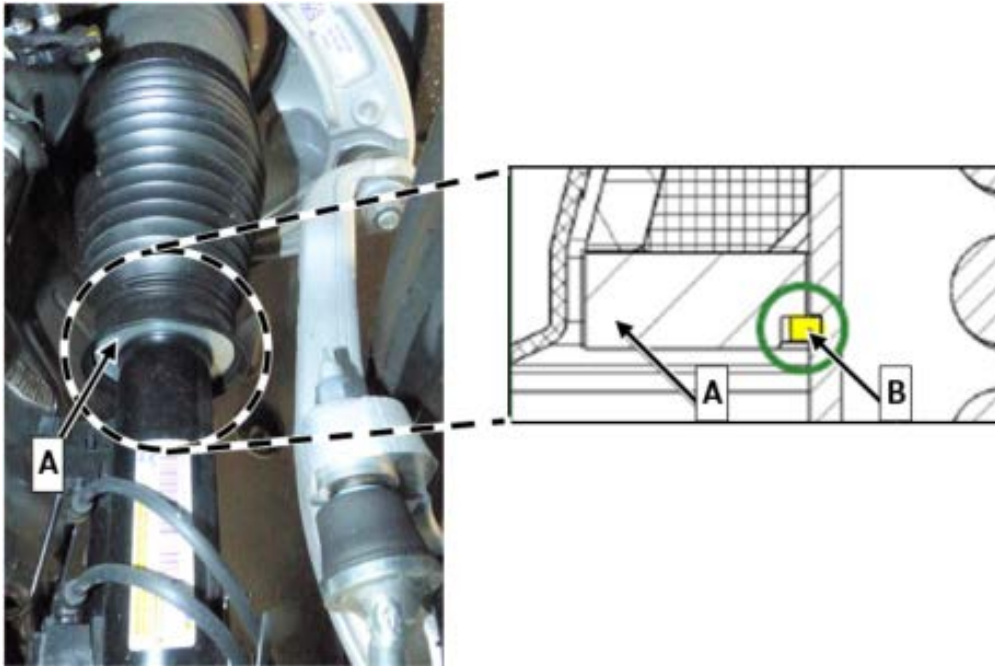

Figure 1 (correct assembly)
1. Check whether stop plate (A, Figure 1) on support ring (B, Figure 1) is assembled correctly.